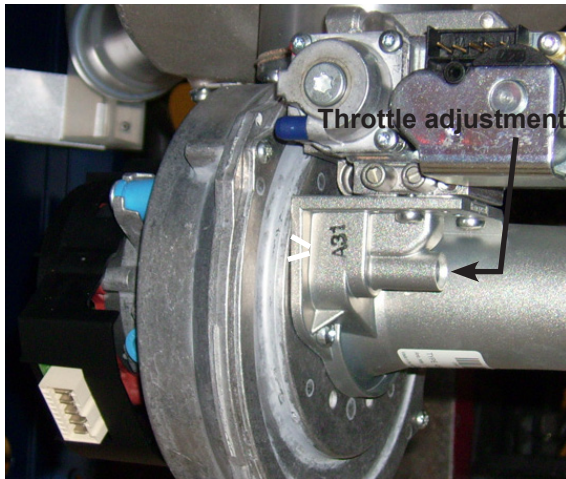

Fig 9.1
To check, re-establish gas and electricity and then run the Heater for at least 5 minutes. If adjustment is required remove the cover over the Throttle screw and turn anti-clockwise to increase CO₂, clockwise to decrease. (Fig. 9.1) Allow at least a minute between adjustments to obtain stable readings. The Gas Rate will be correct when the CO and CO₂ figures are to specification.
- Release the gas valve from the venturi by undoing three screws. (See Fig.9.1)
- Adjust using the throttle screw on the gas valve clockwise to decrease CO₂, anti-clockwise to increase CO₂. (Fig. 9.1)
- After five minutes check the rate and combustion is correct to the data table. (inside front cover). Adjust using the throttle screw on the gas valve clockwise to decrease CO₂, anti-clockwise to increase CO₂. (Fig. 9.1)